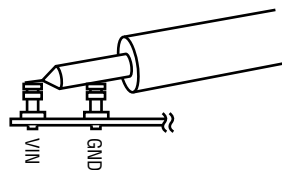

Figure 2. Measuring Input or Output Ripple
NOTE: When measuring the input or output voltage ripple, care must be taken to avoid a long ground lead on the oscilloscope probe. Measure the input or output voltage ripple by touching the probe tip directly across the V_{IN} or V_{OUT} and GND terminals. See the proper scope probe technique in figure 2.
5. Set the load current of both outputs to 600mA and the input voltages to 12V, and then measure each output ripple voltage (refer to figure 2 for proper measurement technique); they should each measure less than 20 mVAC. Also, observe the voltage waveform at either switch node (pin 5 for reg.1 and pin 8 for reg.2) of each regulator. The switching frequency should be about 2.25MHz $\pm 20\%$ (period between 370ns and 555ns). Both switch node waveforms should be rectangular in shape, and 180° out-of-phase with each other.